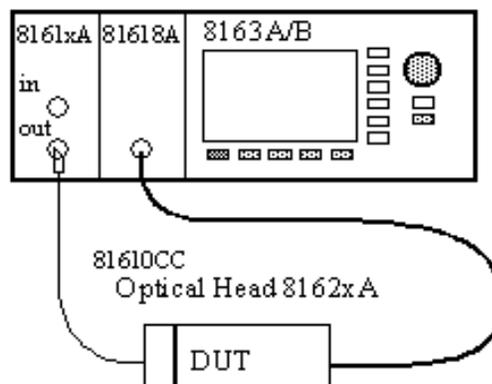

Figure 11 Return Loss Reference Setup
- 2 Connect the equipment as shown in Figure 11 .